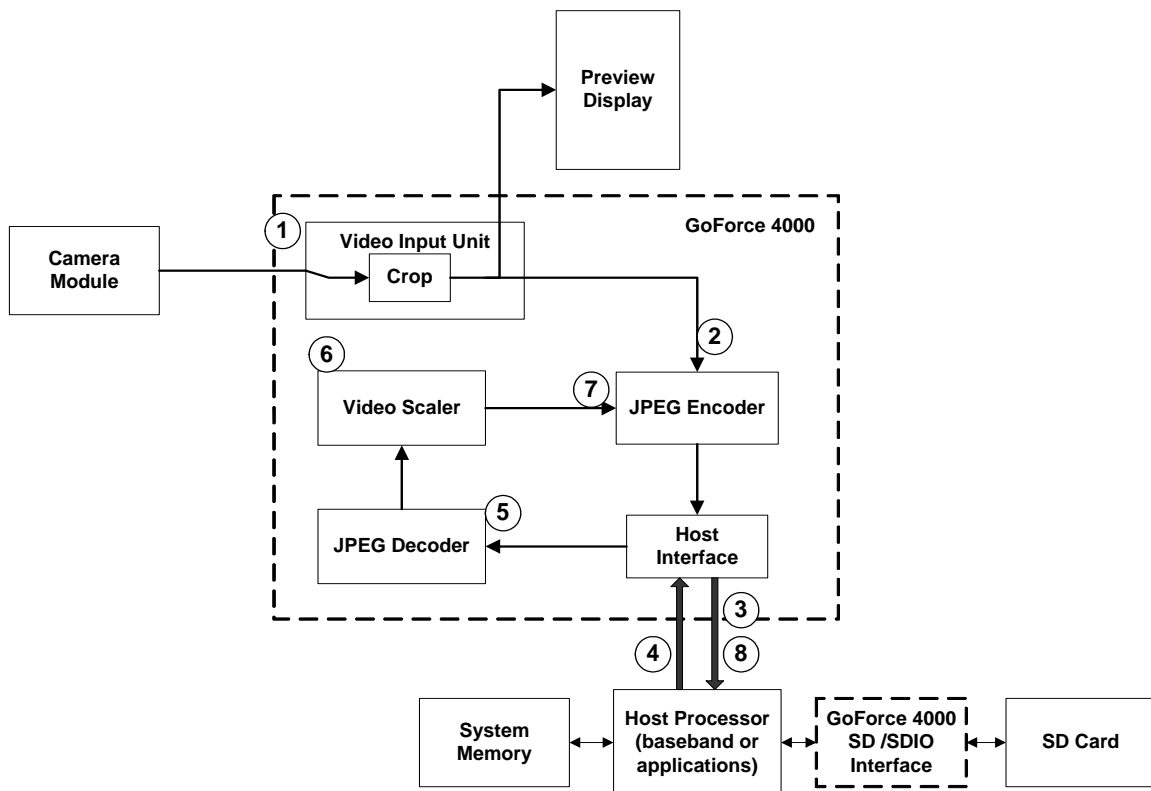

Figure 5. Digital Zoom Data Flow
As can be seen in Figure 5, camera data from the VI ① is first cropped and then JPEG encoded ② with a fine quantization table that contains fine Q values. This “first pass data” is then written to system memory or an SD card ③.